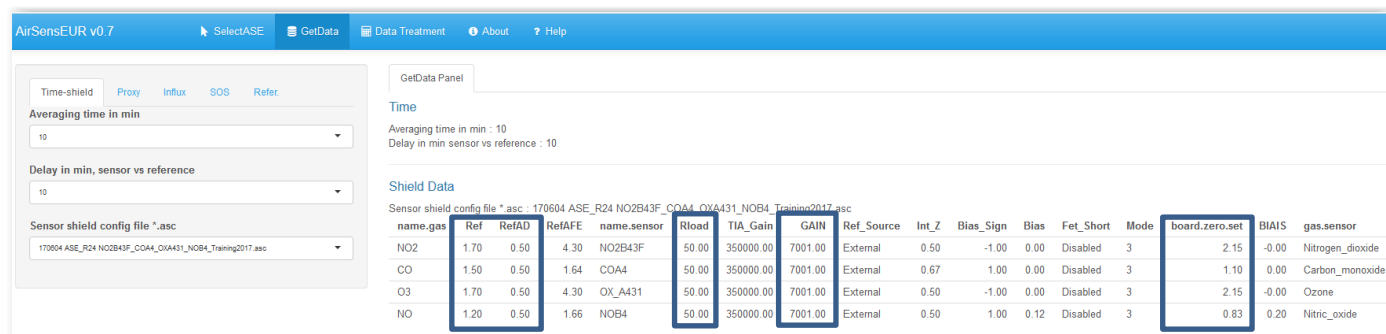

Figure 19: AirSenseEUR R/Shiny web interface for AirSenseEUR. Menu "GetData", configuration of sensor shield with conversion parameters being highlighted
AirSenseEUR shields transfer sensor digitalized values (Digital) between 0 and 65535 (2^{16} corresponding to the 16-bit analogue to digital conversion used in the shield). The digitalized values can be converted back to voltages (V) using Equation 1 or in current (nA) using Equation 2. The configuration parameters of sensor shields is given in the main TabPanel of the NavBar menu "GetData", see Figure 19. More details are given in some of the AirSenseEUR reports^{1,2}.
Where Ref, RefAD, Rload, GAIN and board.zero.set are the configuration parameters of the sensor shield, see Figure 19.